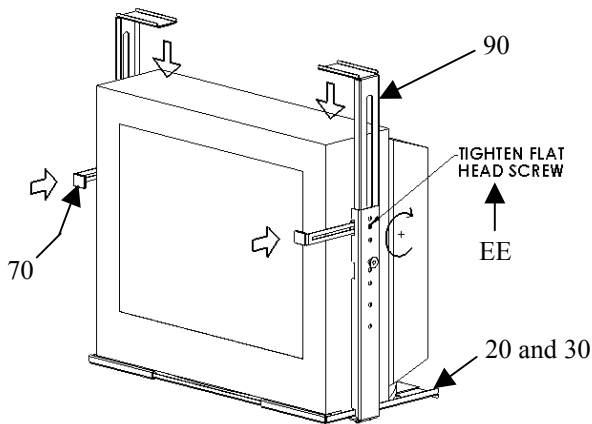

Figure 12. Place Monitor on Mount
2. Slide the end plates (20 and 30) to match the width of your monitor. See Figure 12.
4. With the assistance of another person, carefully place the monitor on the center plate. Slide the monitor onto the center tray (10) from the back end to avoid lifting the monitor over the retaining edge of the center tray.
5. Firmly push the roll out brackets (70) inward until they make contact with your monitor. See Figure 12.
6. Firmly press down on the top placement brackets (90) until they make contact with your monitor.
7. Tighten the flat head screws (EE) on both sides.